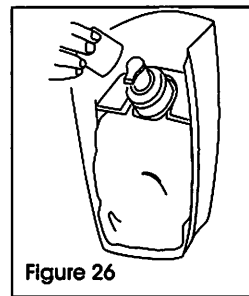
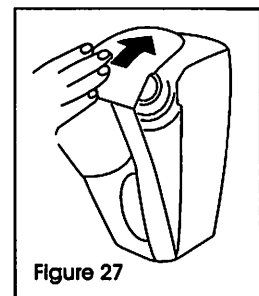

Figure 26
Figure 27
- Remove the protective overcap from the pump. (See Figure 26) To close the dispenser, place your hand on top or front of the dispenser below the push pad, and push up on the cover until it is latched. (See Figure 27)